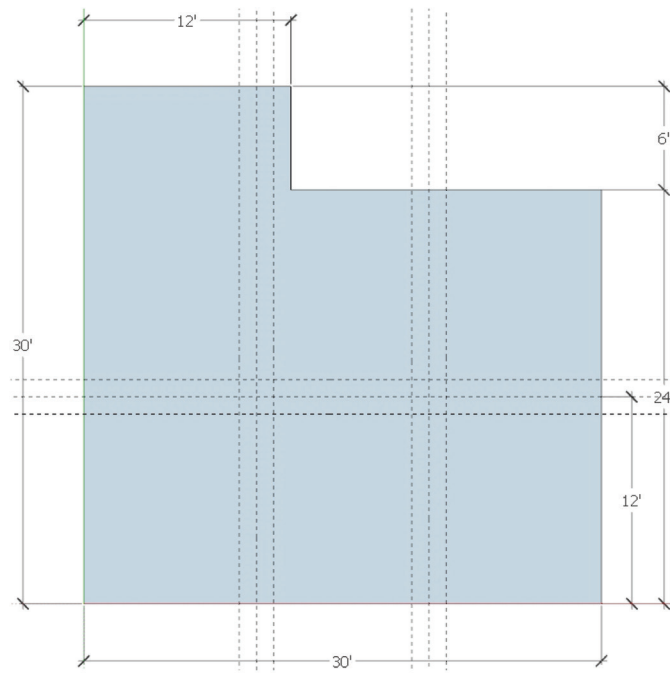

Figure 10.20 Grid.
11. The interior piers are 24" × 24". You now have a centerline grid to work with, so add a few more guides to create the 24" width and length. Press T for Tape Measure Tool and offset the center horizontal guide 12" up and 12" down (to create our 24" length)—do the same for the two vertical guides—12" left and 12" right on each. You should now have a grid as shown in Figure 10.20.